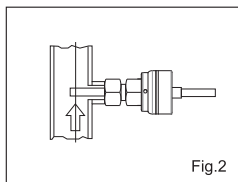

Fig.2
2. In the vertical pipe, sensor should be installed where medium streams upwards. (Fig.2)
- In the vertical pipe, sensor should be installed where medium streams upwards.(Fig.2)